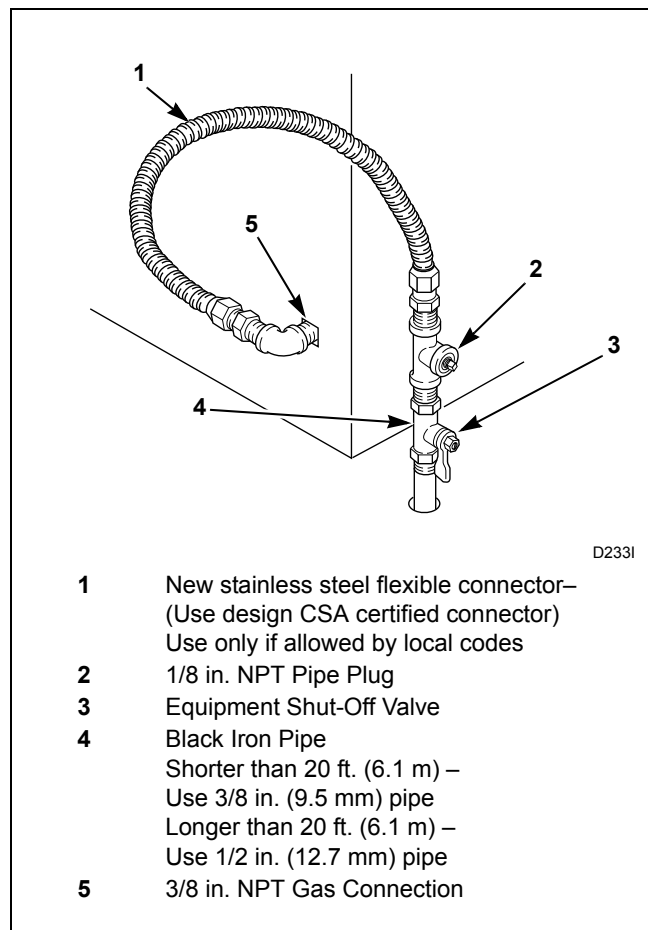

Figure 5
**NOTE:** When connecting to a gas line, an equipment shut-off valve must be installed within 6 feet (1.8 m) of the dryer. An 1/8 in. NPT pipe plug must be installed as shown for checking inlet pressure. Refer to *Figure 5*.